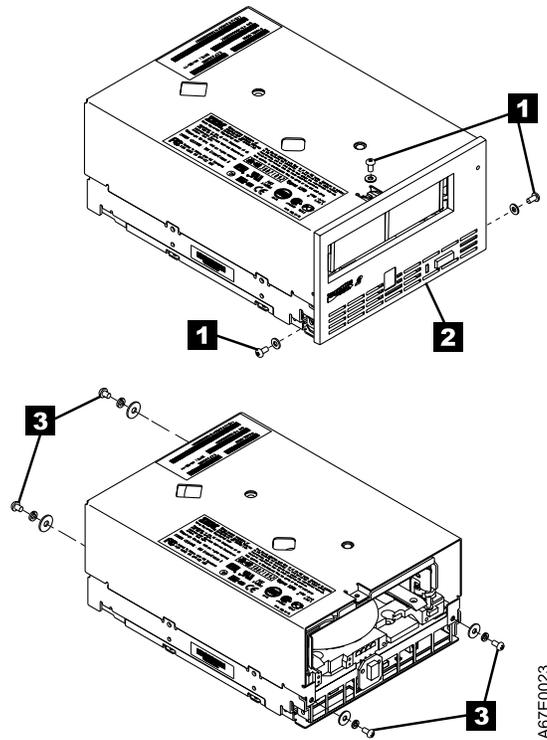

Figure B-4. Removing the top cover of the drive
- a. Use an appropriate tool to remove the three screws and washers (see **1** in Figure B-4 on page B-6) that secure the bezel **2**. Remove the bezel.